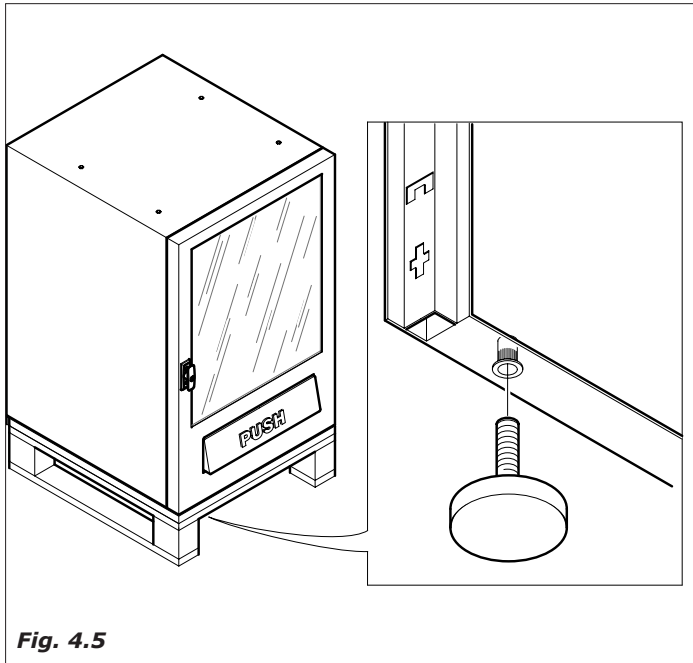

Fig. 4.5
- Release the pallet and insert the 4 feet into the threaded slots (fig. 4.5) freed of the screws (A)